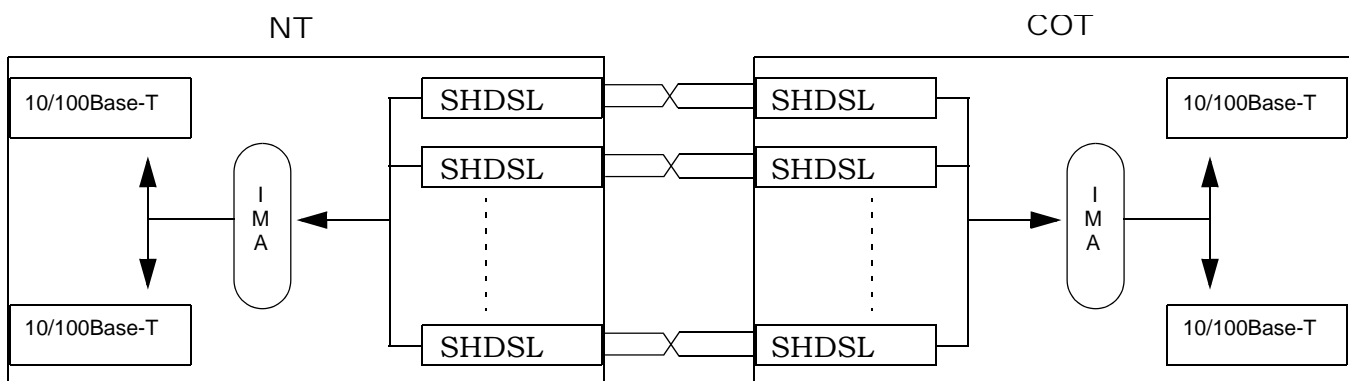

Figure 3. Typical Campus Application
**Figure 3** shows a typical campus application. One Total Access 238 is configured as a Network Termination (NT) device, and the other Total Access 238 is configured as a Central Office Termination (COT) device. A copper pair connects each of the desired SHDSL lines between the two devices. The network connected to the 10/100Base-T connector of the NT device is bridged to the network connected to the 10/100Base-T connector of the COT device, thus forming a single Local Area Network (LAN).